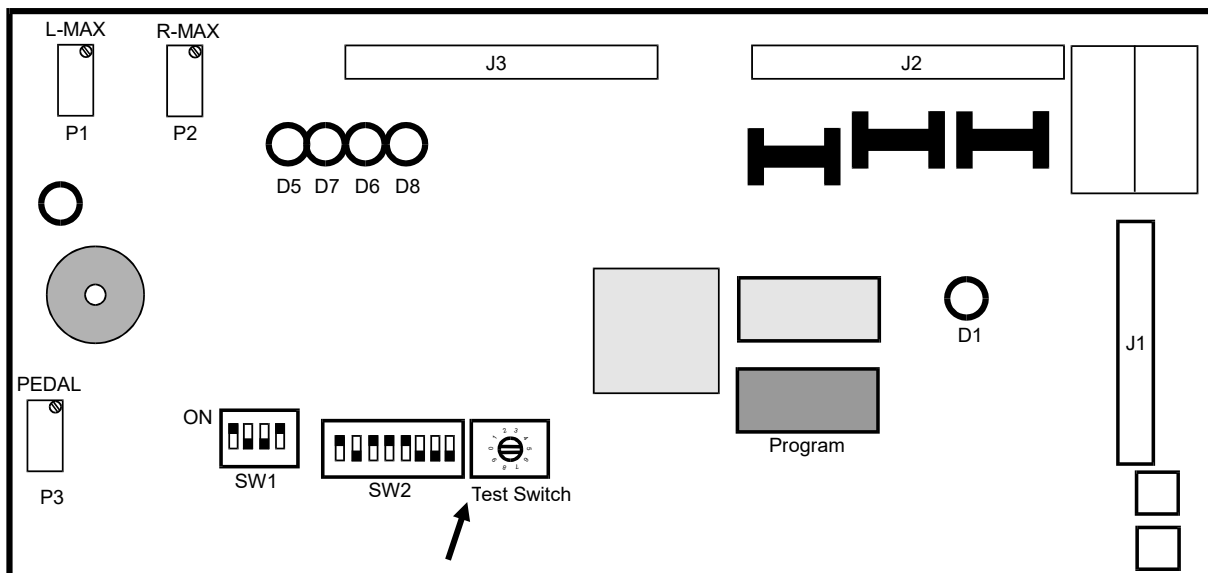

Figure 4
6. If the pointer, on the brake tester console, does not show 2000 Kgf, turn the GAIN potentiometer L-MAX (figure 4), with the adjustment tool (Do NOT use a screw driver), until the pointer shows 2000 Kgf on the console; i.e. 20 on the scale and 00 on the LED display at the bottom of the console.